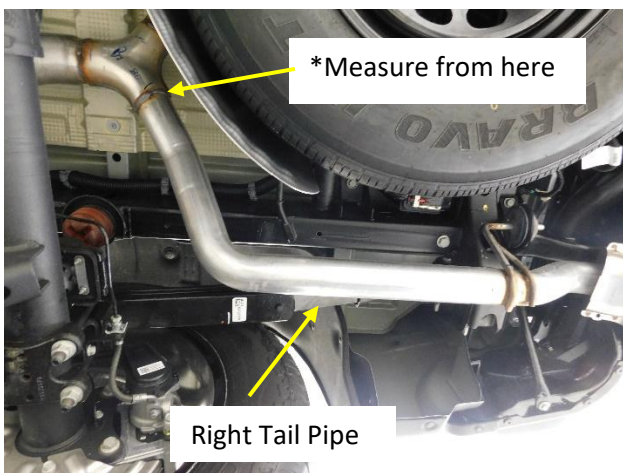
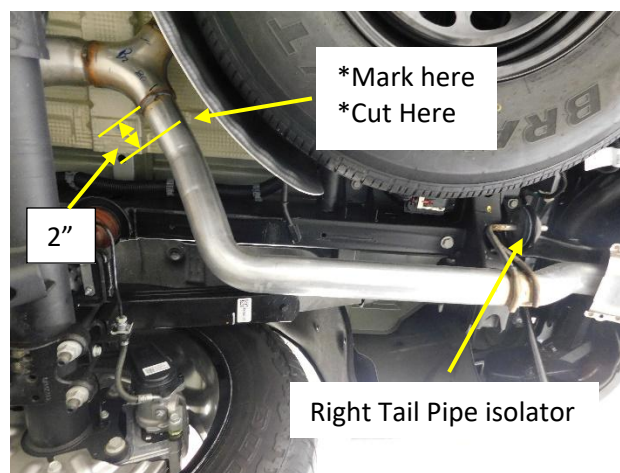

Figure.1
Figure. 2
4. Cut the Right tail pipe at the location in **Fig. 1/ Fig.2**
- Measure from the weld on the passenger side tail pipe just past the rear Y section and make a witness mark at 2.0 inches. **Fig.2**
- Remove the 15mm bolt from the right tail pipe isolators and remove the tail pipe and isolator. **Fig.1/2**